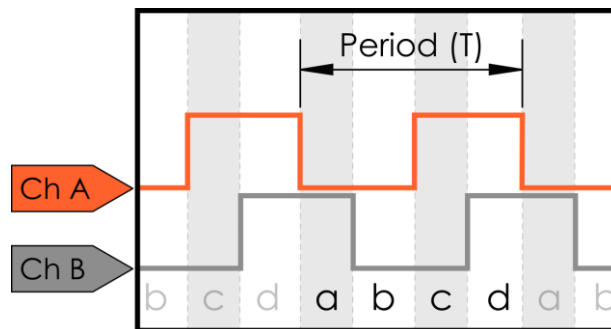

Figure 2: Clockwise Quadrature Encoder Output Timing Diagram
Quadrature encoders are a specific type of relative encoder that have four different output states. If the root *quad*, means four, but there are only two sensors in this encoder, where does the name come from? The output from the two Hall effect sensors are called “Channel A” and Channel B” respectively; an example of the output is shown in Figure 2. In a single period (T), defined as the duration of time of one complete cycle in a repeating pattern, the timing diagram has four distinct states (see a, b, c, and d below), hence a quadrature encoder.